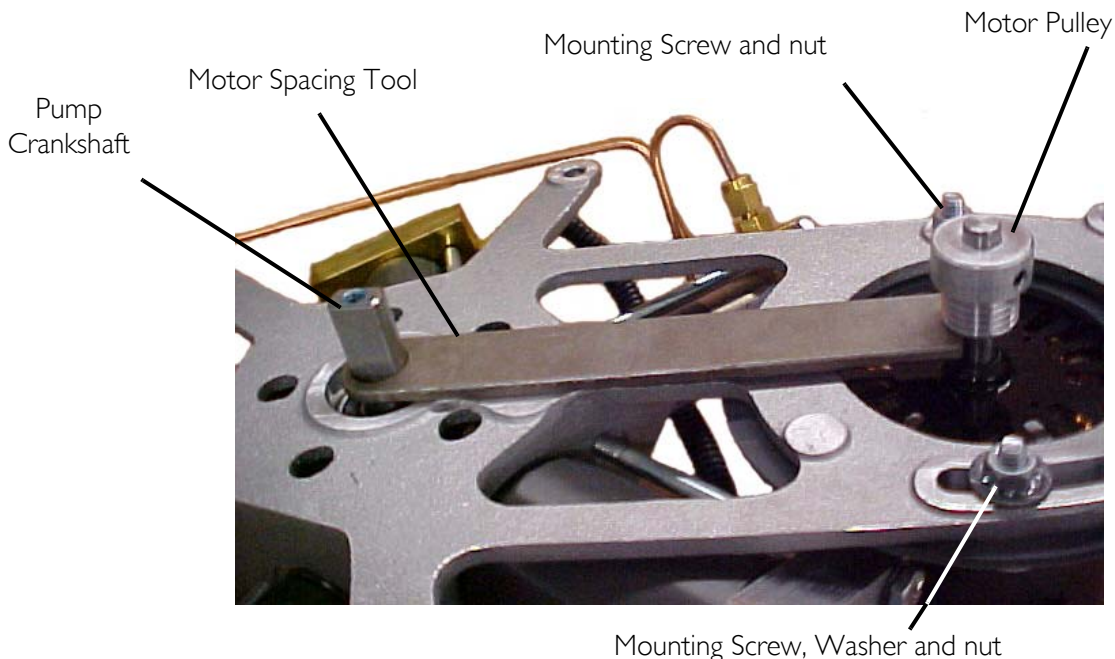

FIGURE 11.7 Belt and Pulley Upgrade
4. Rotate pump assembly 180° so that the motor is facing down and motor pulley is facing up (FIGURE 11.7).